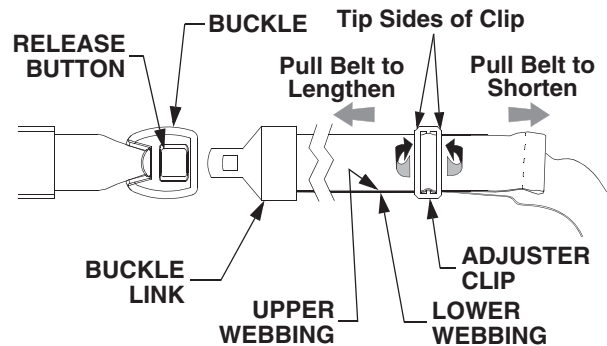

Figure 26
- Hold the ends of the adjuster clip and tip upward the side of the clip toward the buckle link. While holding the clip, pull the upper webbing of the belt through the clip toward the buckle link. See Figure 26.